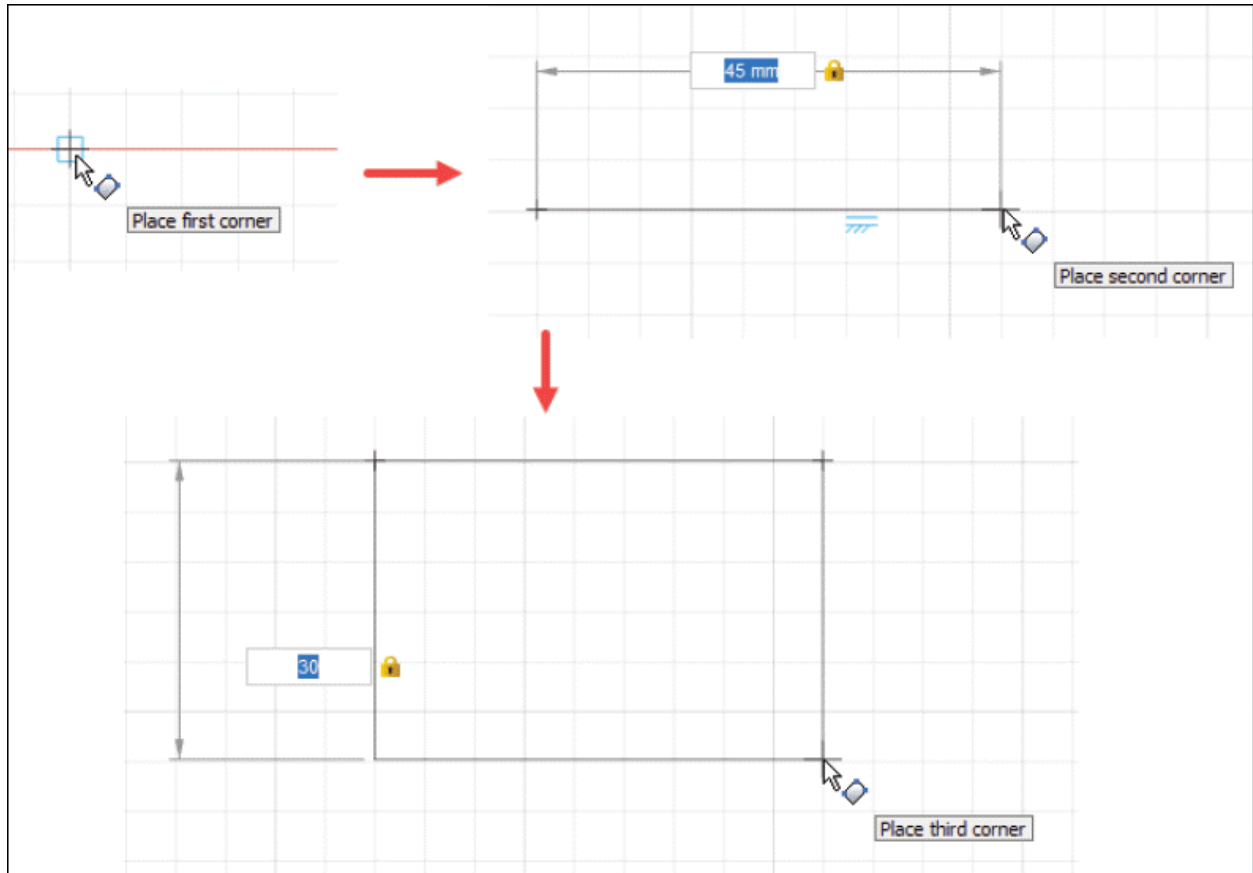

Figure-11. Creation Of 3-Point Rectangle
- Click at desired location to specify first corner point of the rectangle on the sketch canvas; refer to Figure-11.